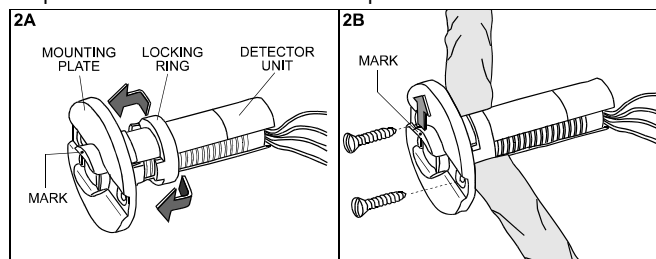

**Figure 1 - Installation with Collar, Models SPY 1, SPY 2**
2. Hold the detector unit by the sides. Carefully put the collar on the detector and adjust its position so that the front of the detector and the collar are aligned (Fig. 1).
5. Orient the detector unit so that the mark on the front faces up (Fig. 1).